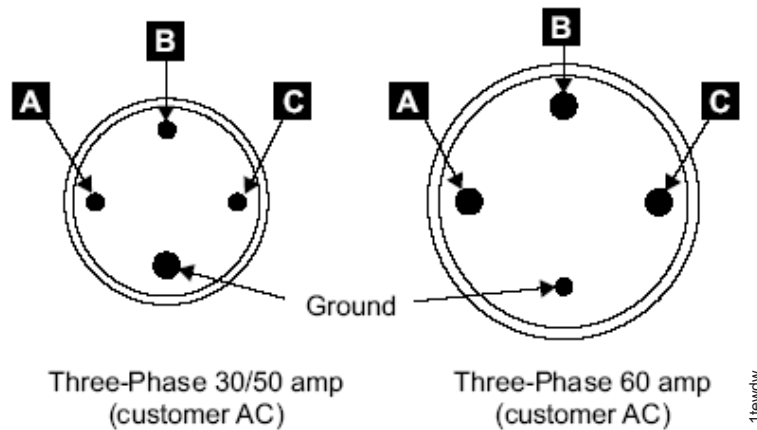

Figure 39. Measuring voltage between each pair of pins
3. Measure the voltage between the ground pin and each voltage pin (**A** , **B** , and **C**) on the customer outlet. Refer to Figure 39 on page 42 for the location of the voltage pins.
4. Locate the DS8000 information label located near the top of the left side panel at the rear of the DS8000. Measure the voltage between each pair of voltage pins (**A** to **B** , **B** to **C** , and **C** to **A**) on the customer outlet. Refer to Figure 39 on page 42 for the location of the voltage pins. Verify that the customer AC input voltage that you just measured matches the machine input voltage information on the label.